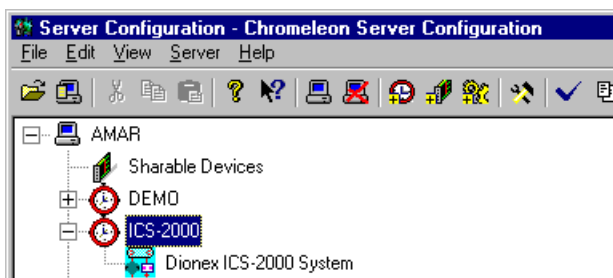

Figure 14. Example: ICS-2000 Timebase
2. Select the timebase that was created for the ICS-2000 (see Figure 14); then, click the **Add device** icon  on the toolbar (or select **Edit>Add Device**).